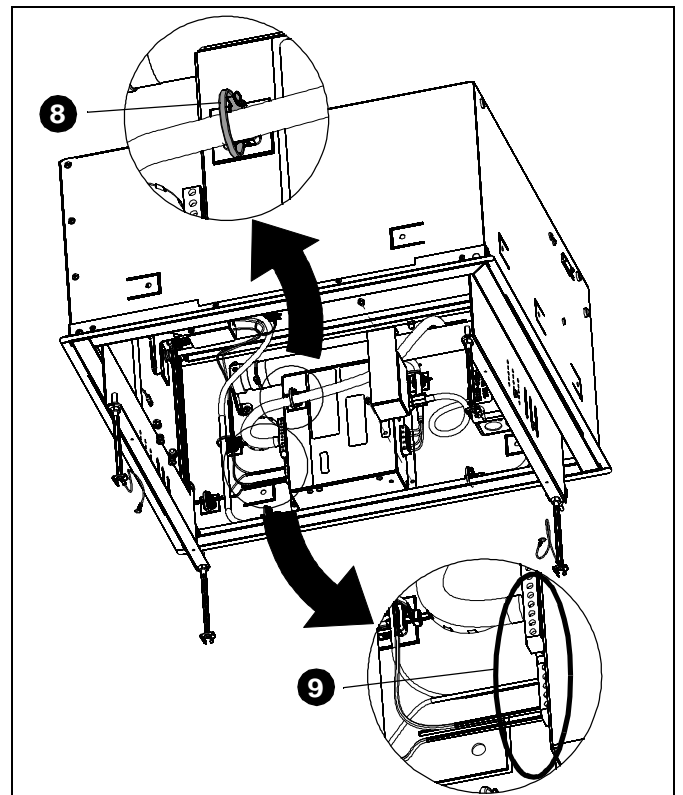

Figure 3
8. Cut and discard one cable tie. (See Figure 3)
9. Disconnect control harness and limit switch harness (three plugs). (See Figure 3)